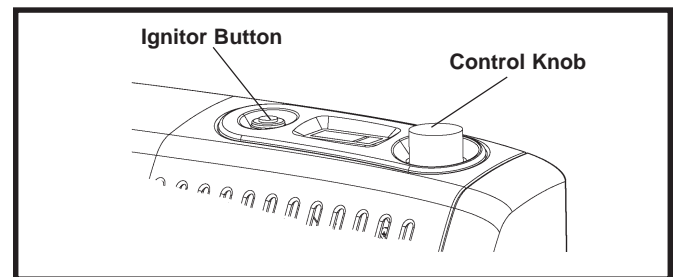

Figure 19.
3. Push in gas control knob and slightly turn clockwise to the OFF position (see figure 19).
4. Wait five (5) minutes. Then smell for gas including near the floor. If you smell gas, STOP! Follow "B" in the safety information above. If you do not smell gas, go to the next step.
5. Push in and turn control knob counterclockwise to PILOT/IGN. Press in control knob for five (5) seconds.